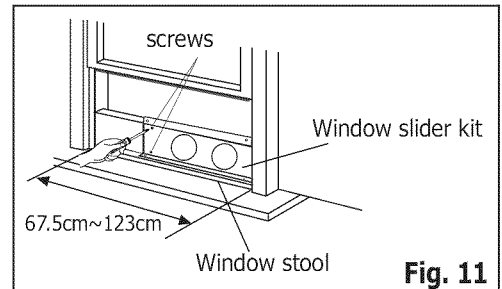
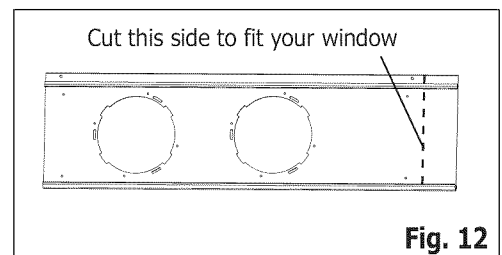
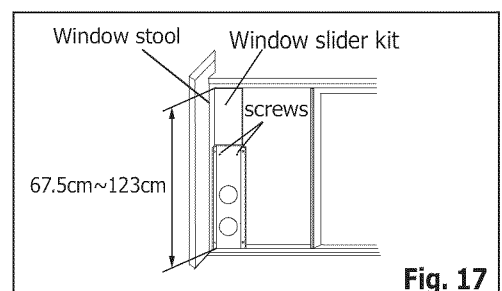

Fig. 11
Fig. 12
Fig. 17
2. Open the window sash and place the window slider kit on the window stool (Fig. 11). Attach the window slider kit to the window stool. Adjust the length of the window slider kit according to the width of window. Screw down the two screws on the window slider kit. See Fig.11. Cut the adjustable window slider kit if the width of window is less than 67.5cm (Fig. 12).
2. Open the window sash and place the window slider kit on the window stool. See Fig.17. Attach the window slider kit to the window stool. Adjust the length of the window slider kit according to the height of window. Screw down the two screws on the window slider kit. See Fig.17. Cut the adjustable window slider kit if the height of window is less than 67.5cm (Fig. 12).